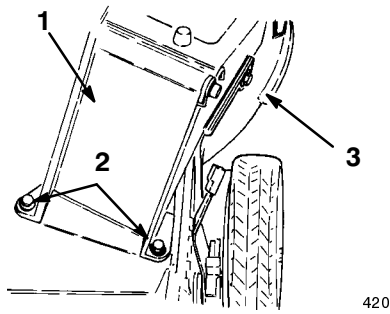

Figure 28
1. Bolt (4)
3. Position the discharge tunnel and door assembly on the lawn mower, aligning the holes in the discharge tunnel with holes in the lawn mower (Fig. 28).